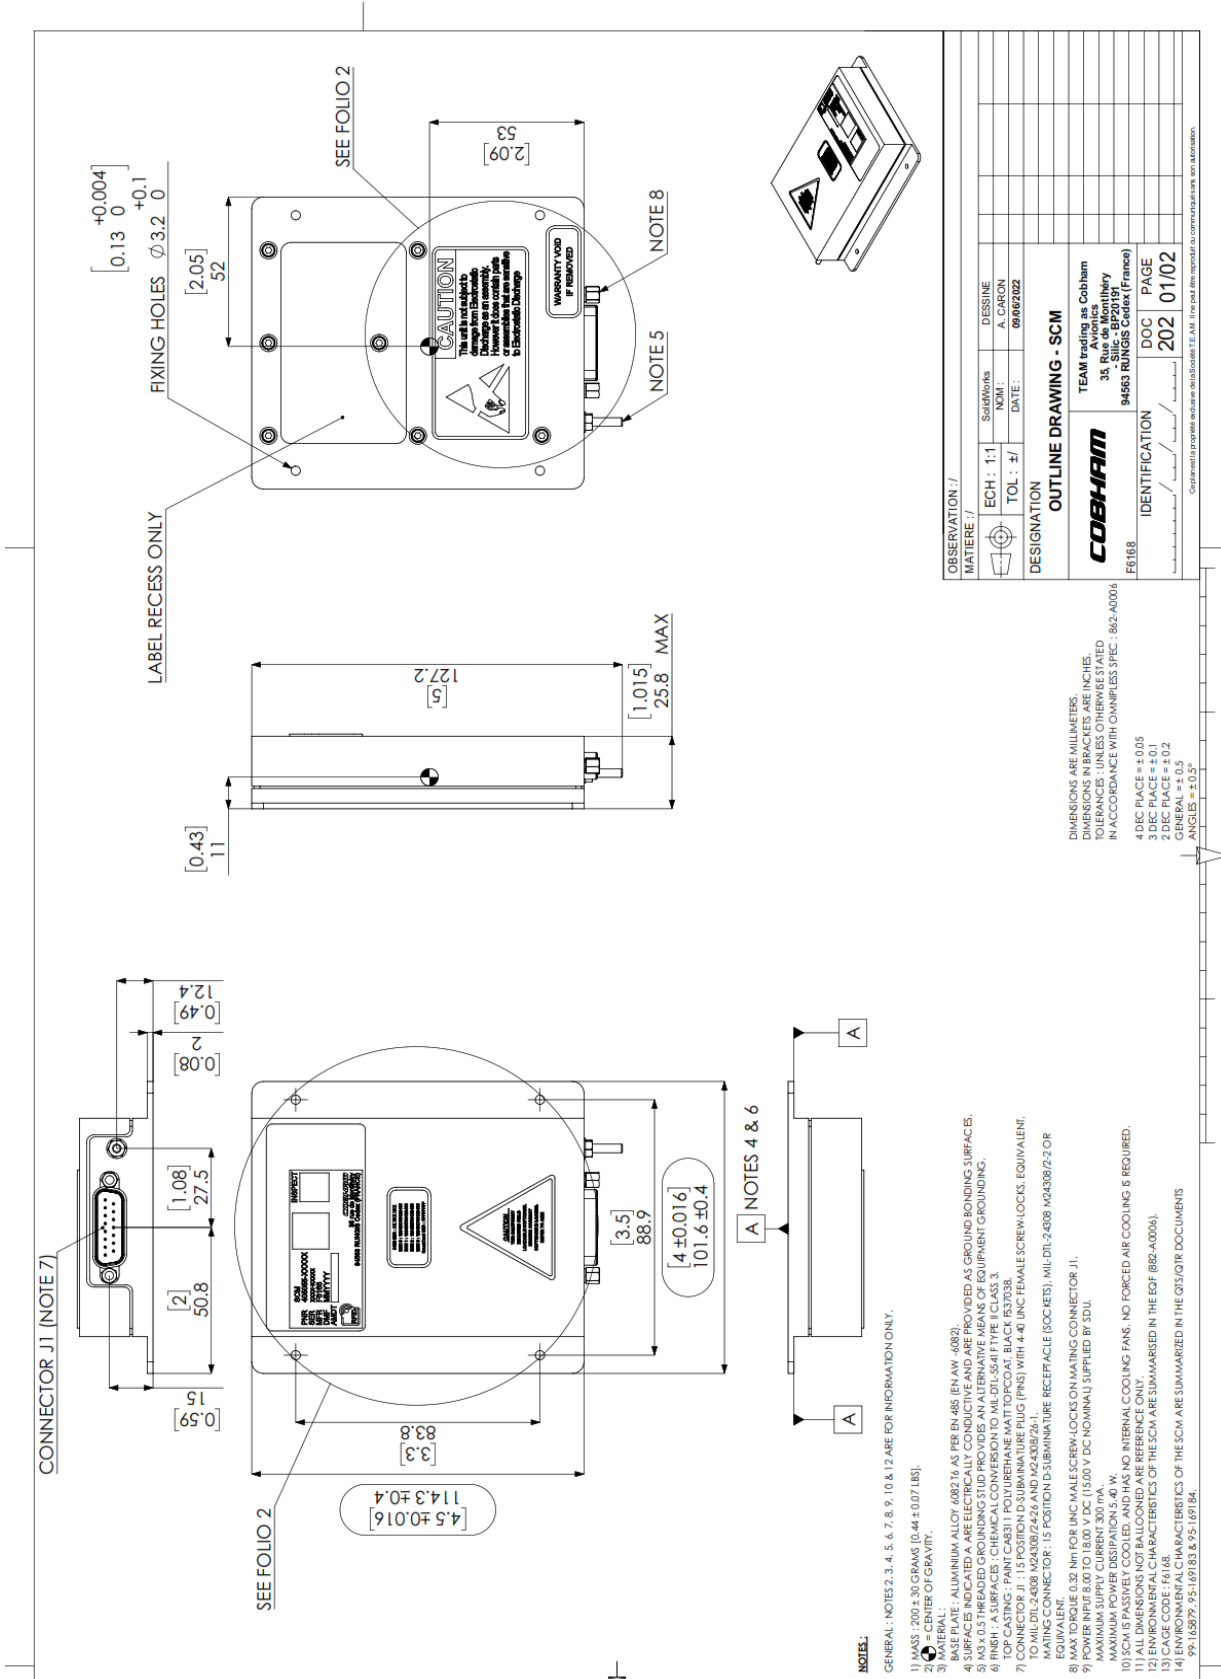

Figure 3-2: Outline drawing SCM-5055 (1/2)
4. Mount the SCM to the aircraft structure using four fasteners through its mounting flange. Refer to **Figure 3-2: Outline drawing SCM-5055 (1/2)**. The flange thickness is 2 mm.
3. Bond the SCM to the aircraft structure via the top and bottom surfaces of the SCM mounting flange. These are electrically conductive and are designated as the equipment's ground bonding points. Refer to **Figure 3-2: Outline drawing SCM-5055 (1/2)**.
4. The M3 threaded stud provides an alternative means for bonding the SCM and may be used at the installer's discretion by fitting a suitable ground bonding strap. Refer to Figure 3-2.